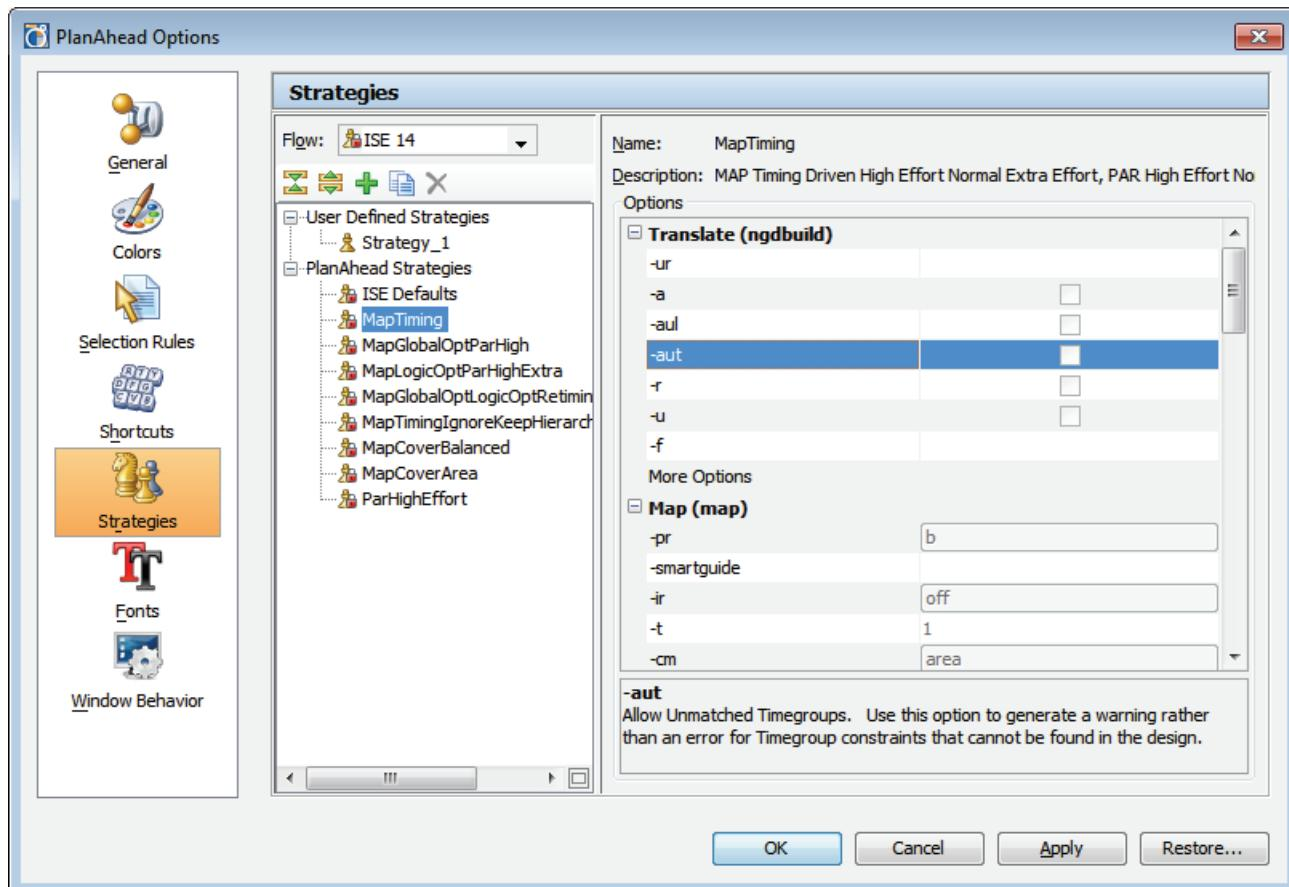

Figure 4-68: Strategies Options
2. Select **Strategies** in the left-side panel. The Strategies dialog box, shown in Figure 4-68, page 177, contains a list of pre-defined strategies for each ISE and Xilinx Synthesis Technology (XST) version.
7. Modify command options by clicking in the command option area (to the right), and selecting an option from the pull down menu, or typing a new value. Available command option settings display in the popup menu, as shown in Figure 4-68, page 175. Notice that you cannot change the default options for predefined PlanAhead tool strategies.